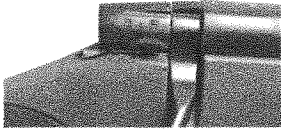
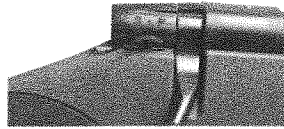

Fig. 1, “Fire” position
Fig. 2, Middle “Safe” position
Step 2. Move the safety lever to the forward “Fire” position (see Fig. 1) on a two position safety or the middle “Safe” position (see Fig. 2) on a three position safety.
Step 20. Move the safety lever to the middle "Safe" position (see Fig. 2).
Step 24. Pushing the safety lever fully forward to the "Fire" position (see Fig. 1), will allow you to test the function of the new trigger as well as the pull weight of the trigger.